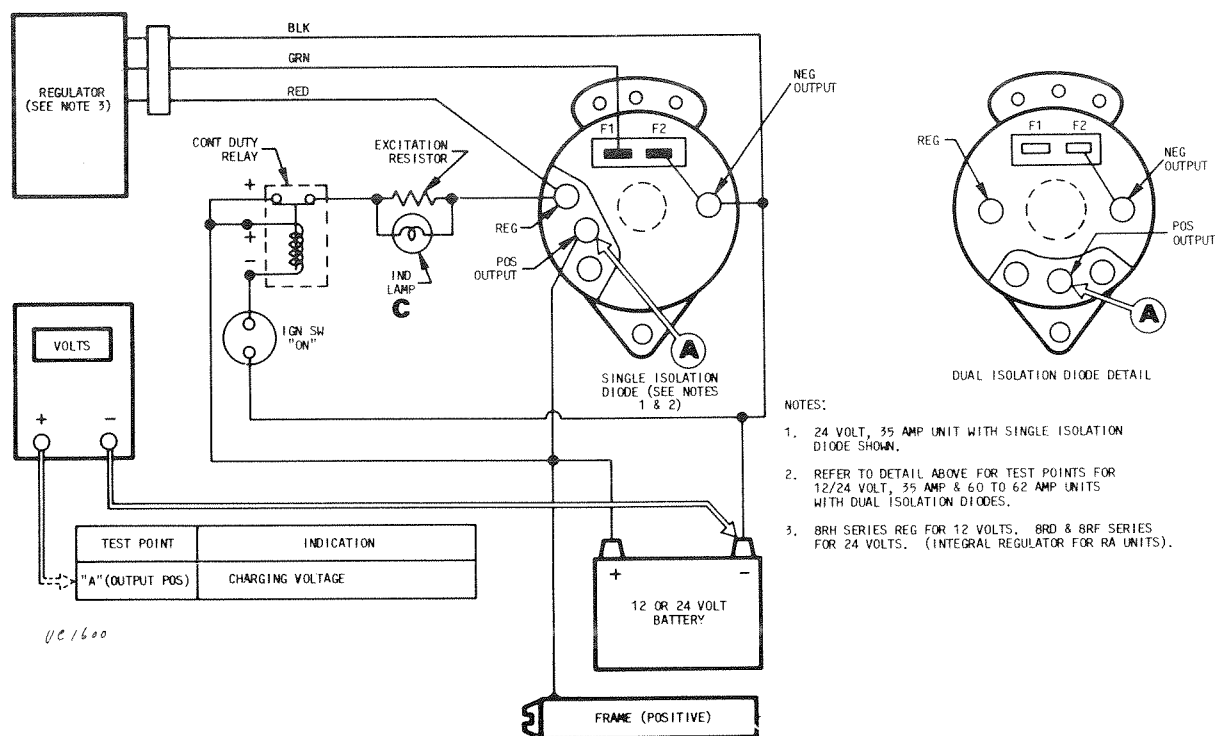

FIG. 3-15 ALTERNATOR OUTPUT TEST
**CONDITIONS:** Engine running at fast idle (after voltmeter is connected as shown in Figure 3-15).